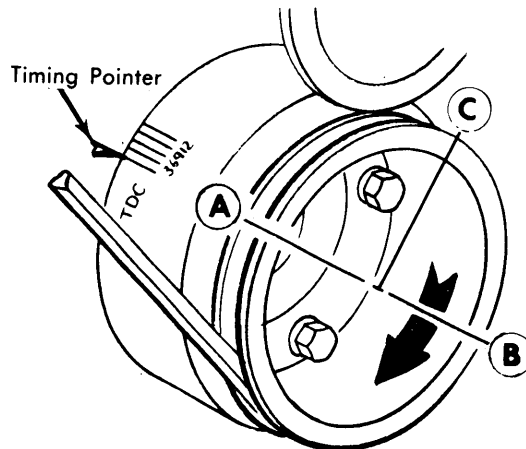

Fig. 8 Crankshaft Positions for Adjusting Hydraulic Valve Lifters
302" Engine — 1) With No. 1 piston on TDC at end of compression stroke (position A in Fig. 8), set valve clearance on the following valves: No. 1 intake, No. 1 exhaust, No. 7 intake, No. 5 exhaust, No. 8 intake, No. 4 exhaust.
2) Rotate crankshaft to position B (see Fig. 8) by rotating crankshaft 180° clockwise from the TDC position. Set clearance on the following valves: No. 5 intake, No. 2 exhaust, No. 4 intake, No. 6 exhaust.
3) Rotate crankshaft to position C (see Fig. 8) by rotating crankshaft 270° clockwise from position B. Set clearance on the following valves: No. 2 intake, No. 7 exhaust, No. 3 intake, No. 3 exhaust, No. 6 intake, No. 8 exhaust
351-W" Engine — 1) With No. 1 piston on TDC at end of compression stroke (position A in Fig. 8), set valve clearance on the following valves: No. 1 intake, No. 1 exhaust, No. 4 intake, No. 3 exhaust, No. 8 intake, No. 7 exhaust.
2) Rotate crankshaft to position B (see Fig. 8) by rotating crankshaft 180° clockwise from the TDC position. Set clearance on the following valves: No. 3 intake, No. 2 exhaust, No. 7 intake, No. 6 exhaust.
3) Rotate crankshaft to position C (see Fig. 8) by rotating crankshaft 270° clockwise from position B. Set clearance on the following valves: No. 2 intake, No. 4 exhaust, No. 5 intake, No. 5 exhaust, No. 6 intake, No. 8 exhaust.